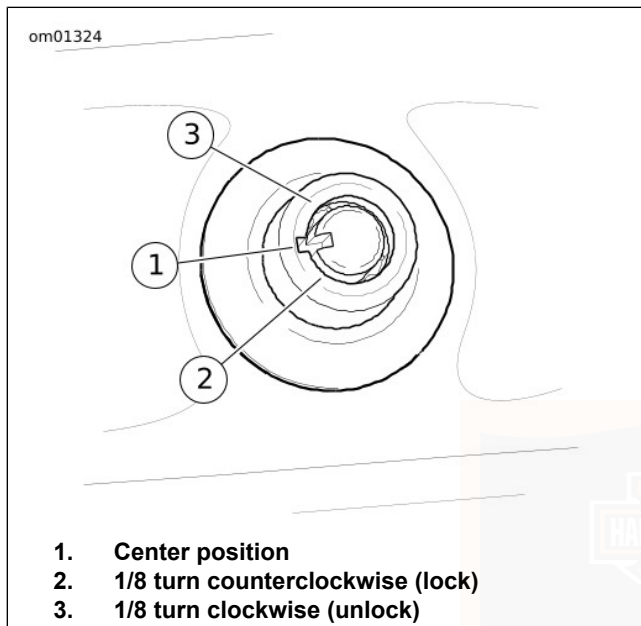

Figure 32. Trunk Lock
1. See Figure 32. To unlock trunk, insert key into barrel lock and turn one-eighth turn clockwise. Return key to center position and remove.